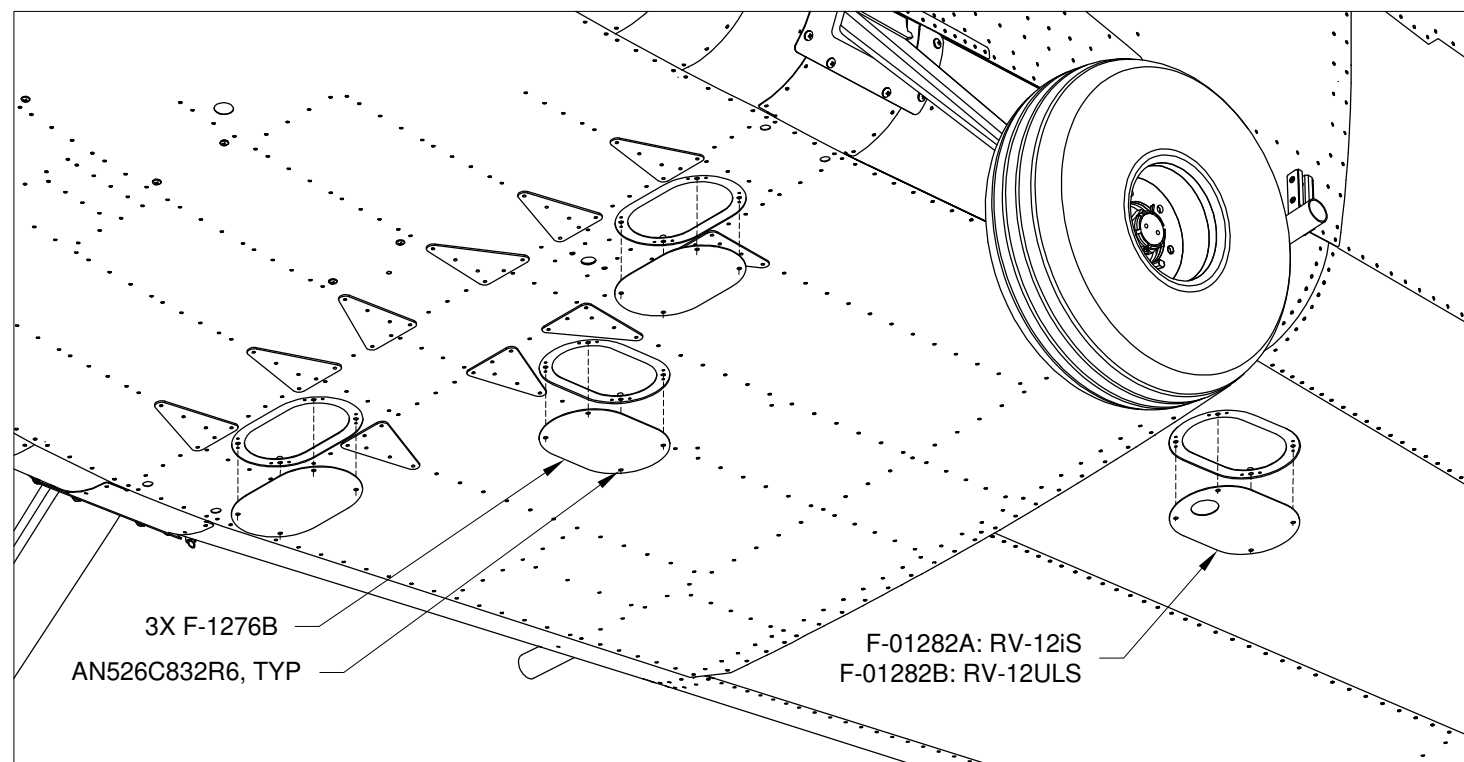

FIGURE 1: ATTACHING THE BOTTOM COVERS
Step 1: Attach the covers shown in Figure 1 to the bottom of the fuselage and tailcone.